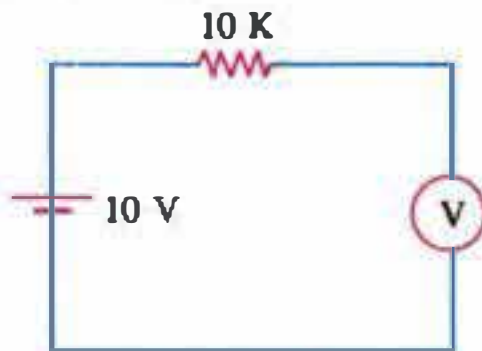

Fig. 2.46
7. The ideal voltmeter V of Fig. 2.46 will read.....volt.